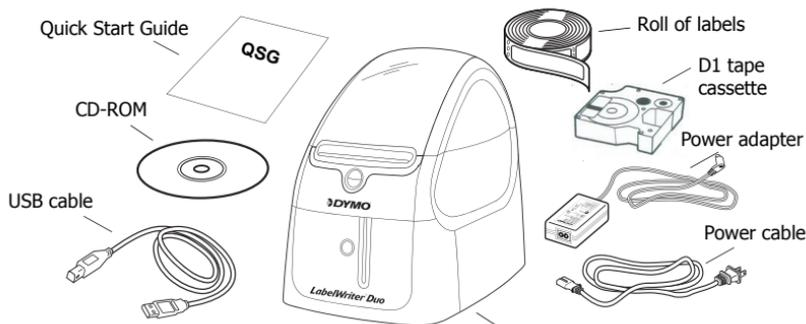

Figure 1 LabelWriter printer
- 2 Make sure you have all the items shown in Figure 1.